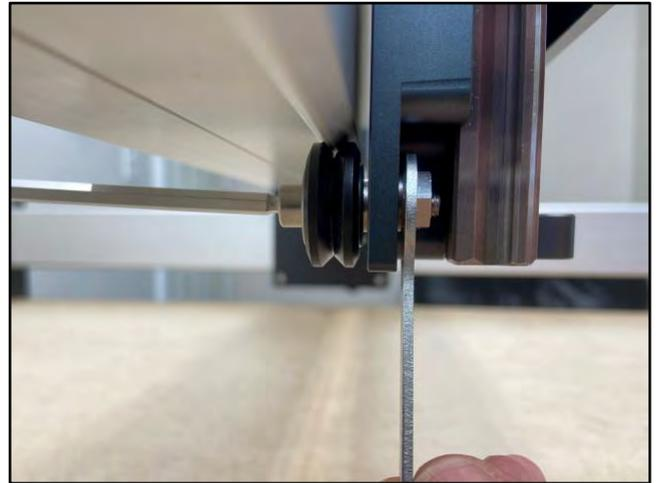

Figure 14
3. Install the bottom two V-wheels on the back of the HDZ. **Fig. 14** and **15**.